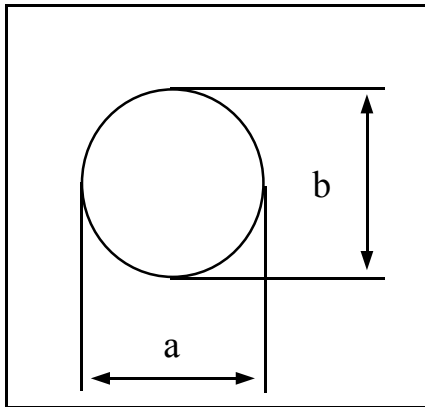
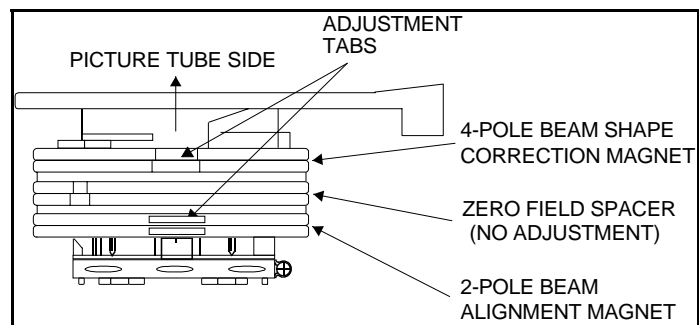

Figure 1
Figure 2
- 2) Put Green (G) tube beam alignment magnet to the cancel state as shown in *Figure 1*.
- 3) Turn the Green (G) static focus VR counterclockwise all the way and make sure of position of cross hatch center on screen.
- 4) Turn Green (G) static focus VR clockwise all the way.
- 5) Turn two Beam alignment magnet in any desired direction and move cross hatch center to position found in step (3). (*See Figure 2 below*).
- 9) Red (R) focus on focus pack.
- 10) Blue (B) focus on focus pack.
- 4) Make the dot at the screen center a true circle, using the 4-Pole magnet shown in *Figure 2* below.
- 5) Also adjust the Red and Blue CRT beam shapes according to the steps (1) to (4).
- 2) (See Figure 1) Loosen the fixing screw on the lens assembly so that the lens cylinder can be turned. (Be careful not to loosen the screw too much, as this may cause movement of the lens cylinder when tightening.)